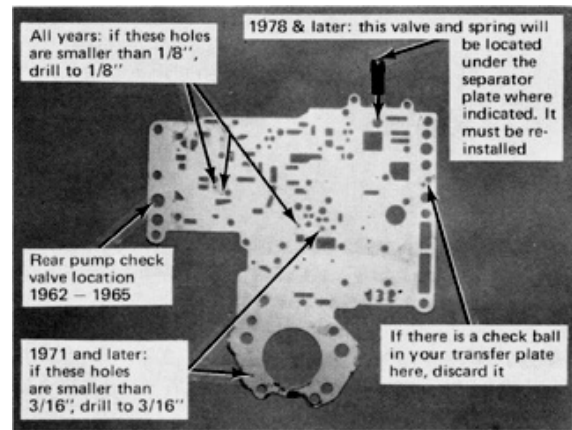

FIGURE 22
STEP 23. Place **transfer plate** and **separator plate** assembly in front of you. The thin metal **separator plate** will be held on with 4-6 short screws. Note how your stiffener plate is positioned. Remove the retaining screws and lift the **separator plate** off. ('62-'65 and '78 and later models will have a check valve and spring under the plate in the position shown. Do not lose it.) Refer to Fig. 22 and drill out all indicated holes, using drills supplied. Deburr holes when through drilling using a fine file, deburring stone or sandpaper.